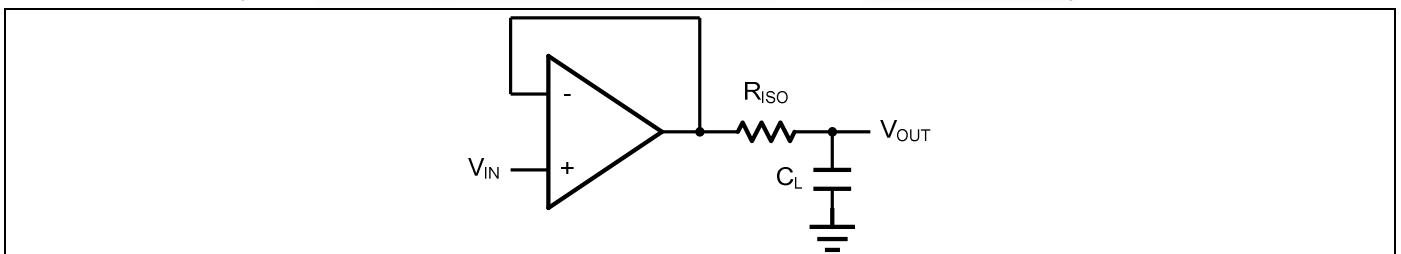
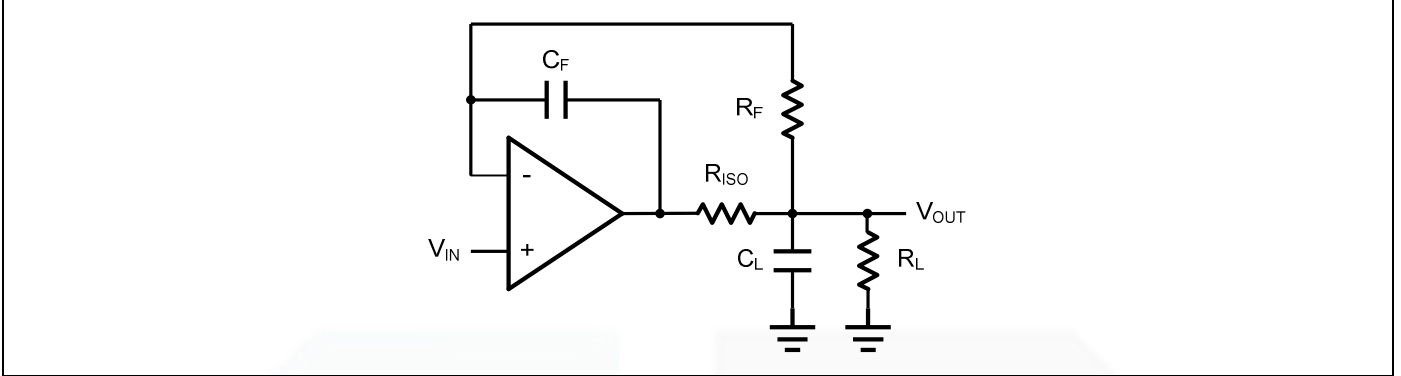

Figure 2. Indirectly Driving a Capacitive Load Using Isolation Resistor
Figure 3. Indirectly Driving a Capacitive Load with DC Accuracy
The GS8333 family is optimized for bandwidth and speed, not for driving capacitive loads. Output capacitance will create a pole in the amplifier's feedback path, leading to excessive peaking and potential oscillation. If dealing with load capacitance is a requirement of the application, the two strategies to consider are (1) using a small resistor in series with the amplifier's output and the load capacitance and (2) reducing the bandwidth of the amplifier's feedback loop by increasing the overall noise gain. Figure 2. shows a unity gain follower using the series resistor strategy. The resistor isolates the output from the capacitance and, more importantly, creates a zero in the feedback path that compensates for the pole created by the output capacitance.
The circuit in Figure 3 is an improvement to the one in Figure 2. R_F provides the DC accuracy by feed-forward the V_{IN} to R_L . C_F